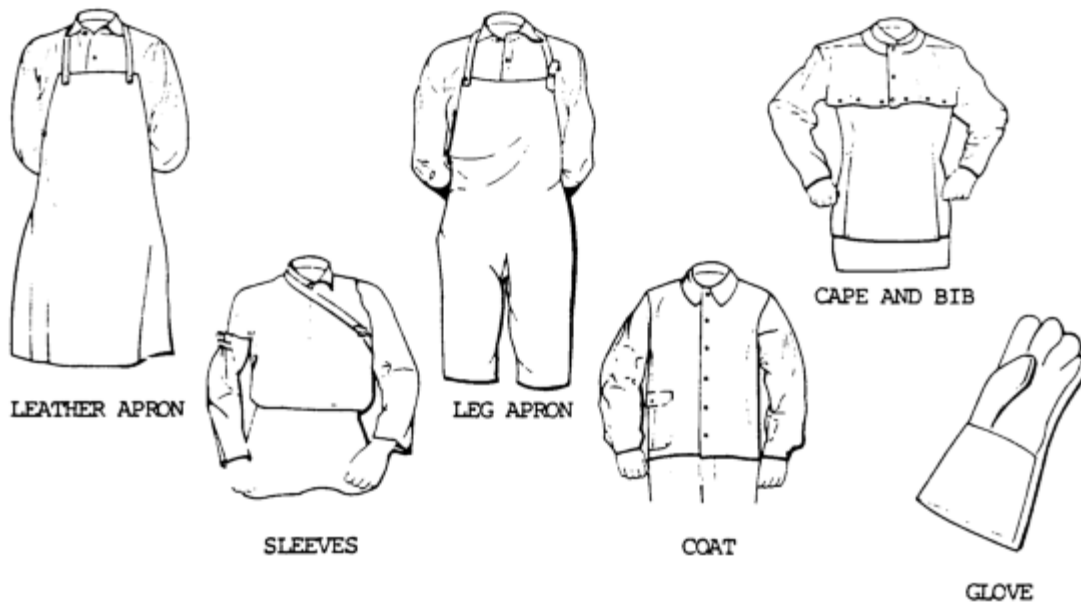

Figure 2-4. Protective clothing.
(1) Personnel exposed to the hazards created by welding, cutting, or brazing operations shall be protected by personal protective equipment in accordance with OSHA standards, Subpart I, Personal Protective Equipment, paragraph 1910.132. The appropriate protective clothing (fig. 2-4) required for any welding operation will vary with the size, nature, and location of the work to be performed. Welders should wear work or shop clothes without openings or gaps to prevent arc rays from contacting the skin. Those working close to arc welding should also wear protective clothing. Clothing should always be kept dry, including